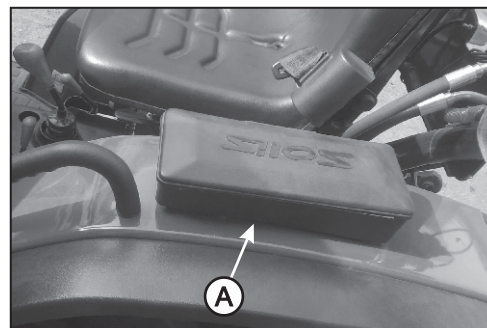

Fig. 3.7
Tool box (A) is mounted on left side fender (fig. 3.7).